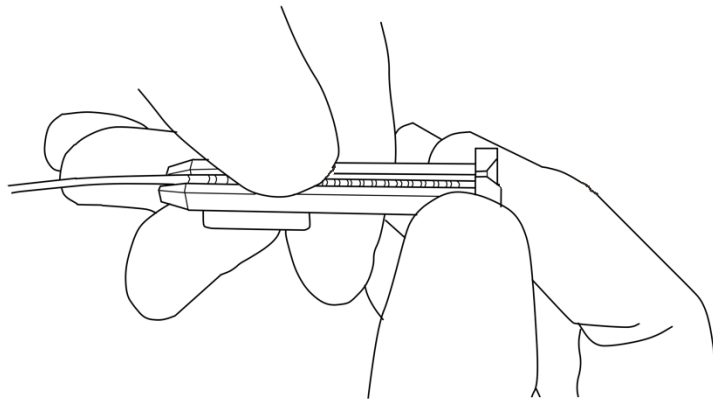

Figure 11.2: Pushing lead into lead adapter slot.
2. Push the lead down into the slot completely using your finger (Figure 11.2), so that the lead is flush with the top of the slot. The lead should not move when fully pushed into the slot. After the lead is in the slot, press down again along its length to ensure it is secure in the slot.